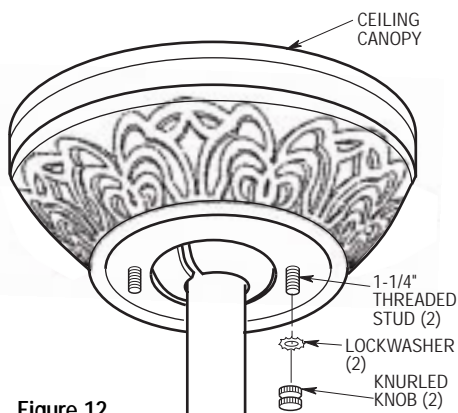

Figure 12
5. Lift the ceiling canopy up to the threaded studs and turn until the studs protrude through the holes in the ceiling canopy (Figure 12).
6. Secure the ceiling canopy in place by sliding lockwashers (supplied) over the threaded studs and installing the two knurled knobs (supplied) (Figure 12). Tighten the knurled knobs securely until the ceiling canopy fits snugly against the ceiling.